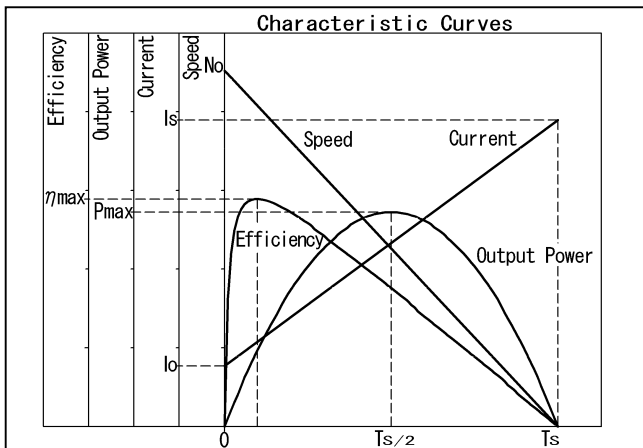

Figure 1
DC motor performances are generally defined using the relationship between torque and the other major 4 parameters (current-I, speed-N, output power-P and efficiency- $\eta$ ) as illustrated in figure 1. Speed-N and current-I curves are directly related to torque. (I) is proportional to torque while (N) is inversely proportional. The peaks of output power (P) and efficiency ( $\eta$ ) exist at different torque points as shown in figure 1. Output power (P) curve draws a parabola variable by  $T_s$ , while efficiency ( $\eta$ ) decreases straight down beyond the peak.